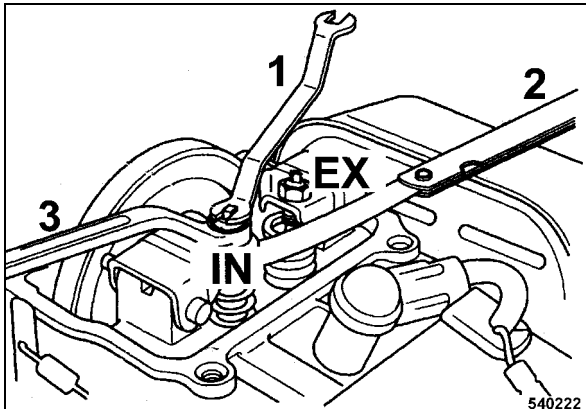

Fig. 48
- Measure the valve clearance between valve adjustment screw and valve with a feeler gauge 2 (Fig. 48).